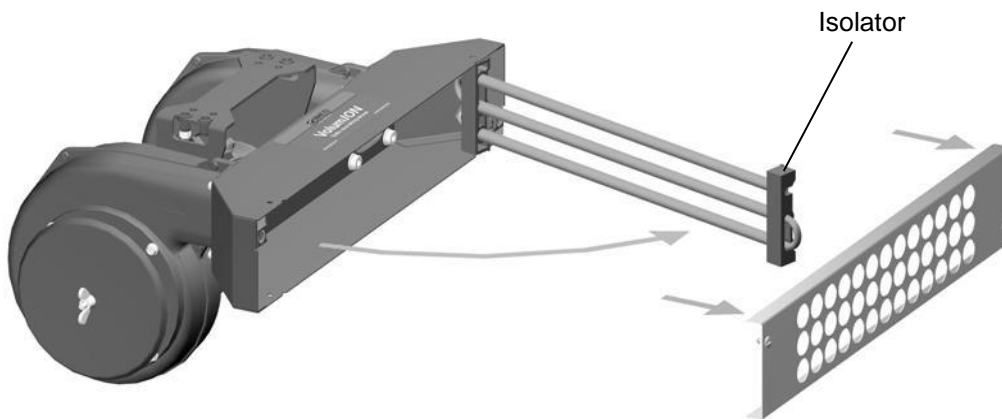

Figure 8: Opening anti-static bars
- Carefully rotate the anti-static bars out of the air duct by pulling the isolator as shown in figure 8. The end of the high-voltage cable must remain in the air duct during this process.